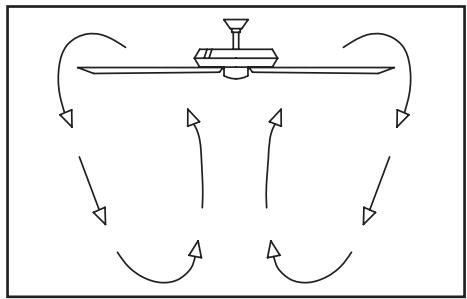

Figure 19
**Cool weather** - (Reverse) An upward air flow moves warm air off the ceiling are as shown in Figure 19. This allows you to set your heating unit on a lower setting without affecting your comfort.